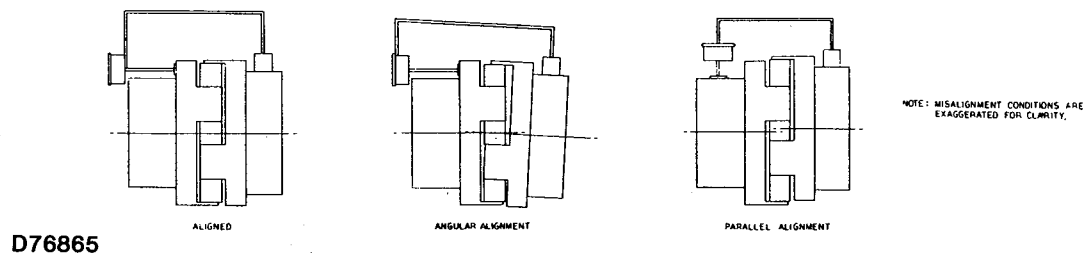

FIGURE 2-7. – ALIGNMENT OF COUPLING
2. Position the coupling body on each shaft (motor and compressor) so that shaft ends are about flush with the face of the body, and flanges rest snugly against the raised dots on the coupling spider faces. When positioning either coupling half on the shaft, make sure the shaft doesn't extend through the coupling to interfere with the spider. Approximate distance between shafts is one (1) inch. Tighten the set screws over the key in each coupling body.
3. Check angular alignment (Figure 2-7, View B) by attaching a dial indicator as shown; base and stem attached to the body of one coupling half, the indicator button resting on the face of the flange of the opposite half. Rotate the coupling and indicator assembly to the top 12 o'clock position and zero the dial. Be sure that the dial button is firmly in contact with the face and that sufficient indicator travel is possible. Tap the indicator face several times to insure return to zero. Rotate the coupling and indicator assembly to the 3, 6 and 9 o'clock positions and record indicator reading at each point. **Maximum allowable indicator reading is .010".** Shim (or lower) motor vertically and/or adjust from side to side until indicator reading is .010" or less.
4. Check parallel alignment (Figure 2-7, View C) by attaching a dial indicator as shown: base and stem attached to the body of one coupling half, the indicator button resting on the outside diameter of the opposite half. Rotate the coupling and indicator assembly to the top 12 o'clock position and zero the dial. Observe the cautions about firm indicator button contact, indicator travel and zeroing outlined in Step 3. Rotate the coupling and indicator assembly to the 3, 6 and 9 o'clock positions and record the indicator reading at each point. **The maximum allowable indicator reading is .010".** Shim (or lower) motor vertically and/or adjust from side to side until indicator reading is .010" or less.